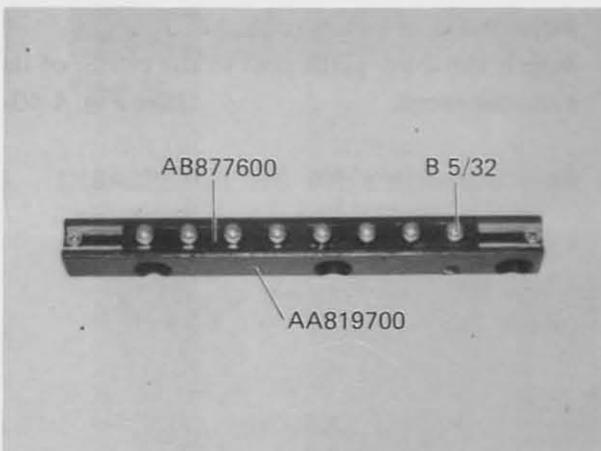

Fig. 4-37
- a) Mount Casing AA872600 and eight Balls B 5/32 on the Inner guide AA819700. (See Fig. 4-37)